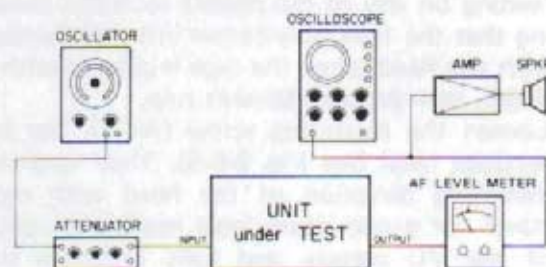

Fig.9-5-9. Level/Frequency Response Measurement Set-up
1. Connect the test equipment to CH1 INPUT and CH1 OUTPUT as shown in Fig. 9-5-9.